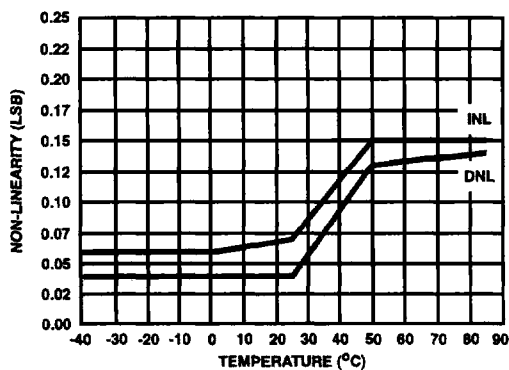

FIGURE 6. NON-LINEARITY vs TEMPERATURE
- The voltages listed are the ideal centers of each output code shown as a function of its associated reference voltage. See Ideal Transfer Curve Figure 6. The output code should exist for an input equal to the ideal center voltage  $\pm 1/2$  of the step size.